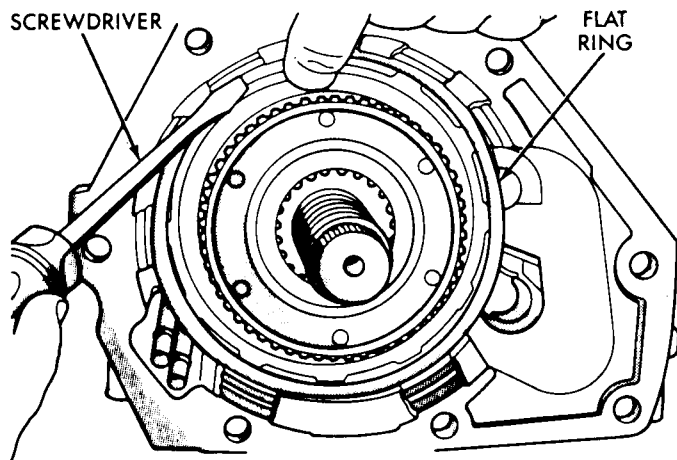

Fig. 5—Install Flat and Wave Ring
(7) After reinstalling the access plate and gasket, install the flat snap ring. Use a large screwdriver to be sure that it's seated properly. Then reinstall the wave ring (Fig. 5) using the same seating technique.